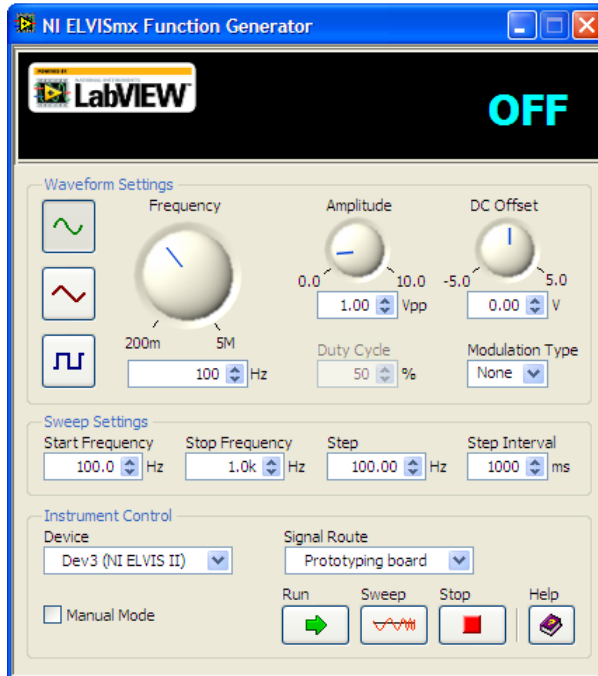
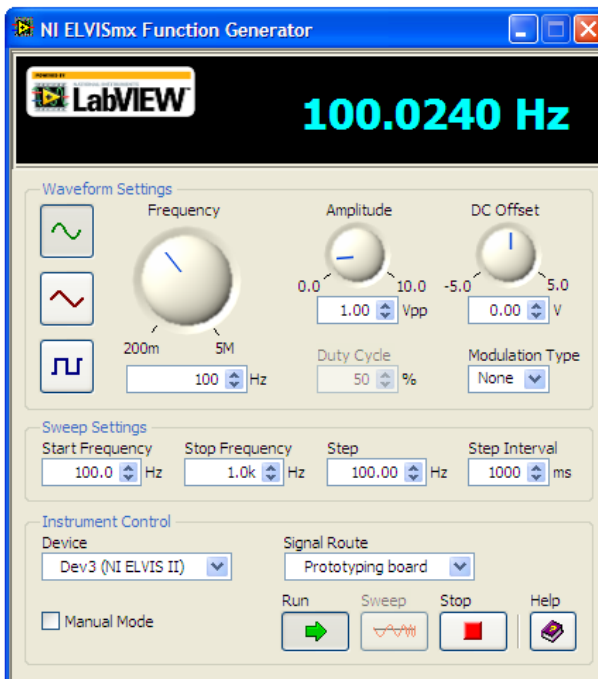

Fig 12. Uninitialized Function generator.
Fig. 13. Function Generator set to produce a 100 Hz sine wave with 1 V amplitude.
5. From NI Elvis instrument launcher, click on "Function Generator" (FGEN). Ensure that the manual mode is turned off on the workstation so that all the buttons on the function generator window are not disabled. The initial function generator should appear as shown in Fig. 12.
As shown in Fig. 12 and Fig. 13, SFP can be used to:
6. Use these settings to obtain a 100 Hz sine wave with peak amplitude of 1 V and DC offset of 0 V. Note that this signal will be applied to the RC low pass filter. The function generator SFP should now appear as shown in Fig. 13.